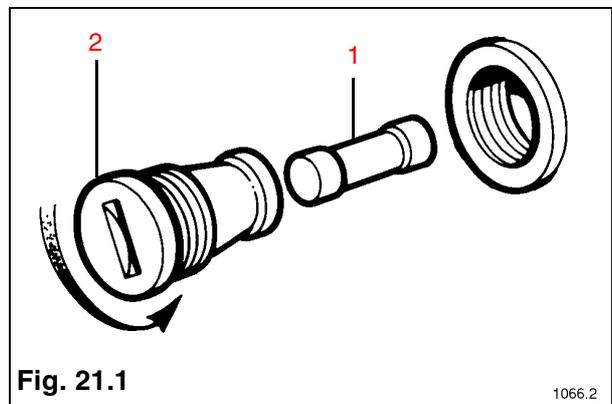

Fig. 21.1
To protect the instrument panel a 2 amp fuse is fitted to remove the fuse (1) unscrew its holder (2) (see Fig. 21.1).